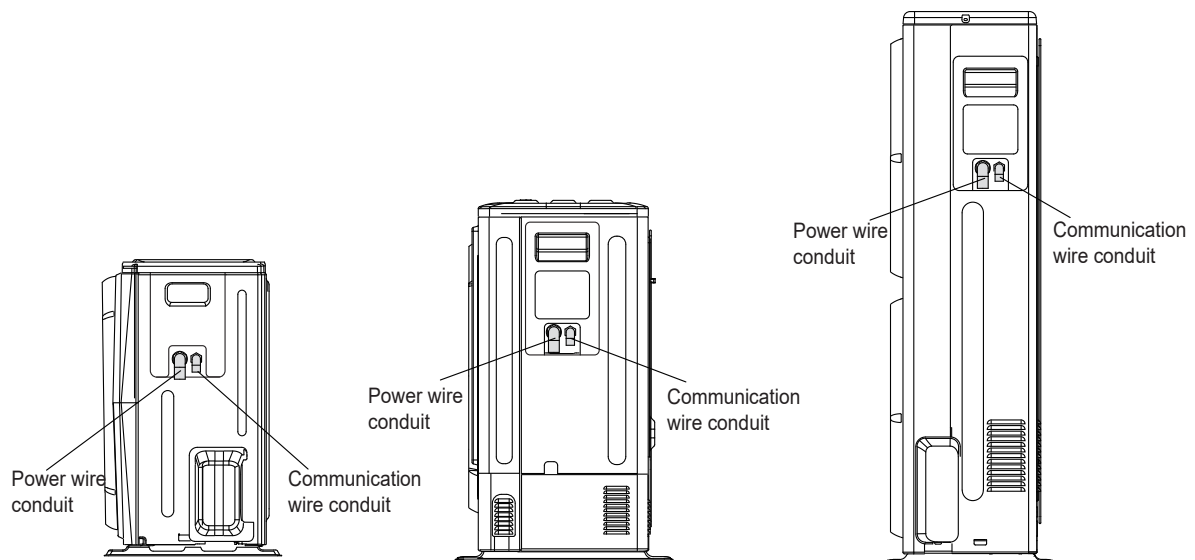

Figure 16-2
2. Power wire and communication wires are separated by individual conduits. See Figure 16-2